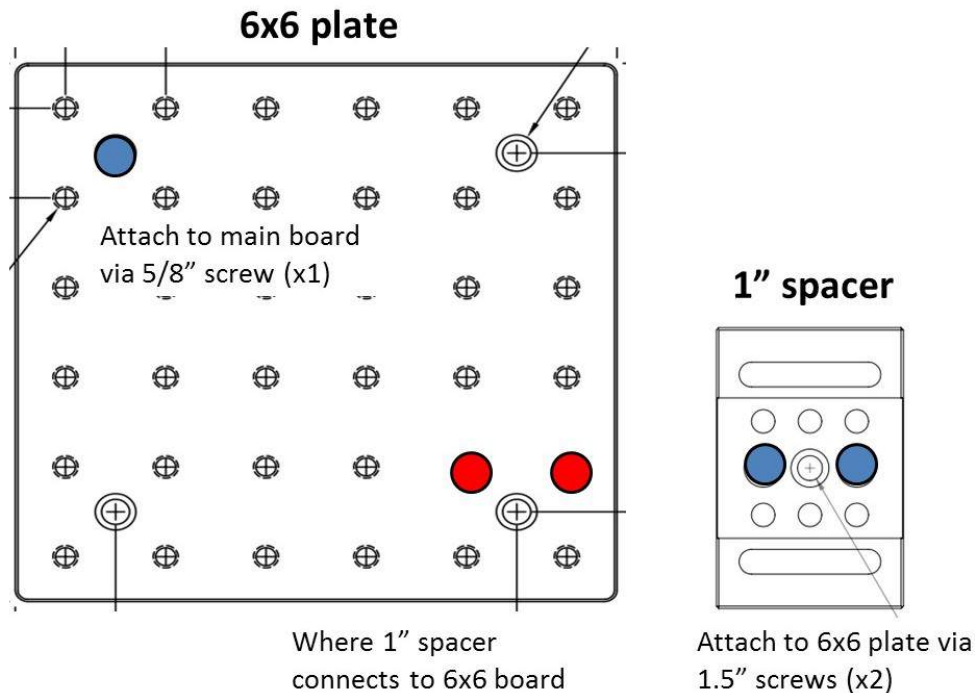

Figure 53
1. Place a 1" spacer (BA2S7) on the bottom corner of the 6x6 plate (MB6) so that the edges of the spacer and the plate are aligned. Attach the spacer to the plate using 1.5" screws (x2) threaded through the counterbores on the spacer (located on the side of the spacer without an labels/logos) and the holes on the plate. Refer to Figure 53 for placement.